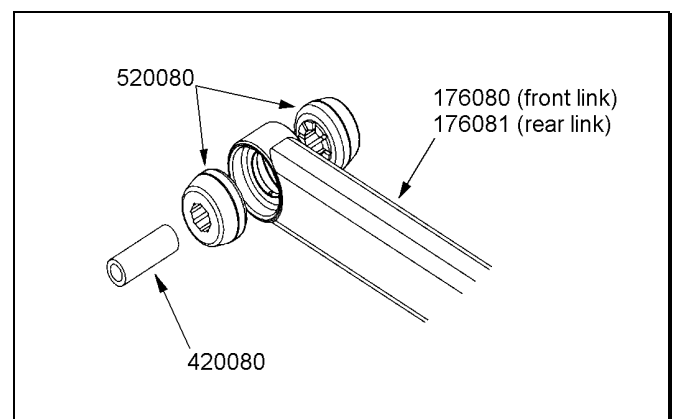

Figure 1
- 2) Press the lubricated bushings into one end of a new Rancho lower link (176080 or 176081) as shown in figure 1.